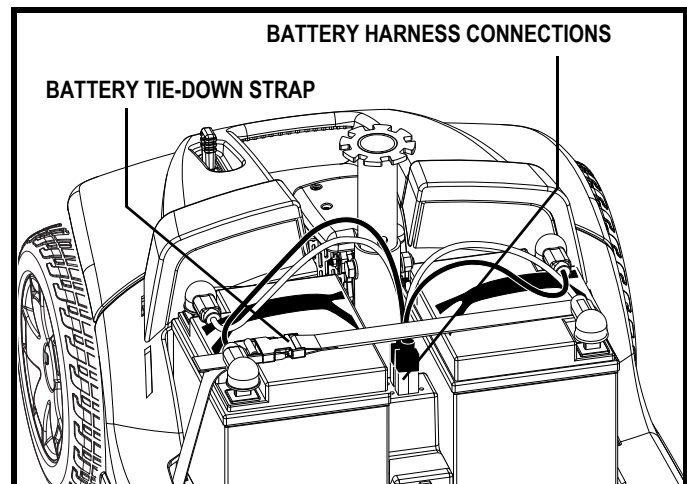

Figure 22. Harness Connections
4. Unplug both battery harnesses by pulling each harness straight up. See **figure 22**.
6. Disconnect both front-to-rear harnesses. See **figure 22**.
6. Connect both battery harnesses. See **figure 22**.